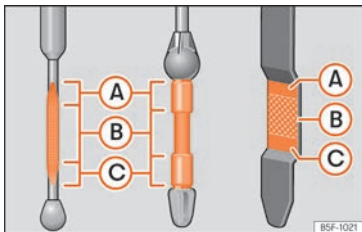

Fig. 222 Engine oil dipstick.
- Then pull it out once more and check the oil level »» **Fig. 222**. Top up with engine oil if necessary.
- When the oil level reaches at least zone »» **Fig. 222 B**, unscrew the engine oil filler cap carefully »» ⓘ.
If the oil level is above area »» Fig. 222 , do not start the engine. This could result in damage to the engine and catalytic converter. Contact a specialised workshop.
The oil level must never be above zone »» Fig. 222 . Otherwise oil can be drawn in through the crankcase breather and leak into the atmosphere via the exhaust system.